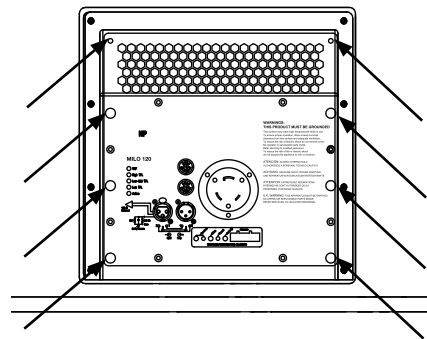

Figure A.3: Location of the eight screws securing the HP-4/MILO 120 amplifier module
1. Using a #2 Phillips screwdriver, remove all eight screws from the amplifier module. This will free the HP-4/MILO 120 electronics module from the cabinet (Figure A.3).